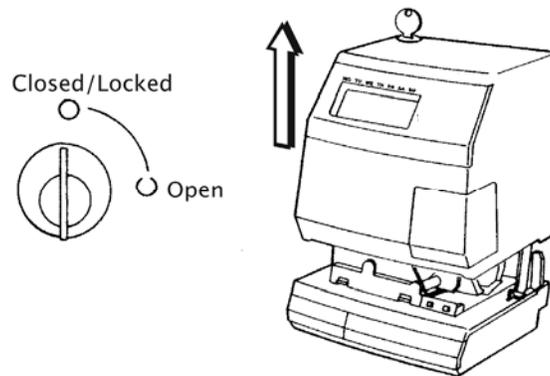

Figure 2-2. Auto-Sync Time Clock Cover Removal.
2. Insert the key, turn the key clockwise, and remove the upper cover of the Auto-Sync Clock (see *Figure 2-2*).
14. Replace the upper cover of the Auto-Sync Time Clock (see *Figure 2-2*).
2. Insert the key, turn the key clockwise, and remove the upper cover of the Auto-Sync Time Clock (see *Figure 2-2*).
15. Insert and tighten the two (2) top plate side retaining screws (one on each side).
16. Replace the upper cover of the Auto-Sync Time Clock (see *Figure 2-2*).